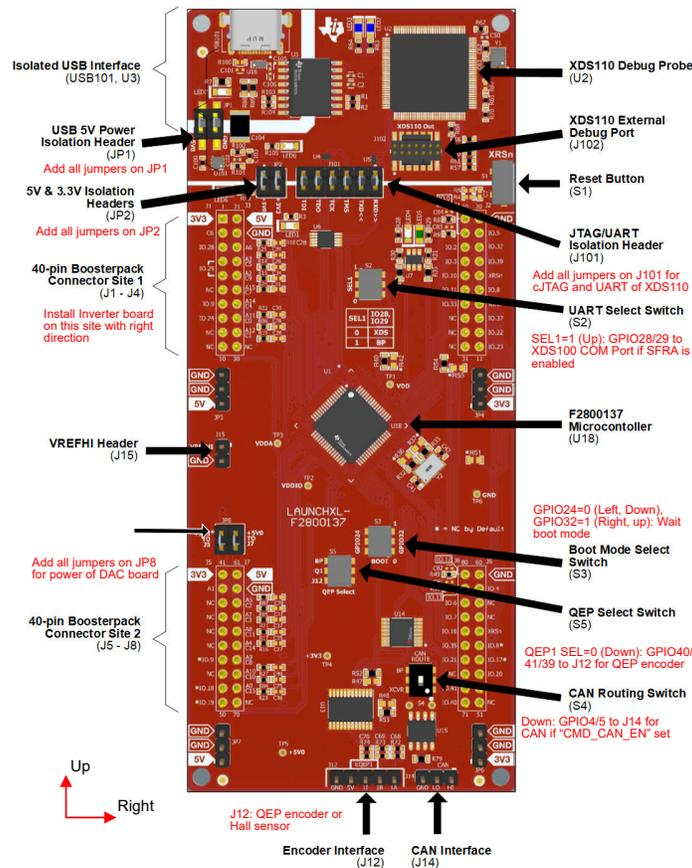

**Figure 3-2. F280039C LaunchPad Board Overview and Switches Setting**
- Make sure that the switches on the **LAUNCHXL-F280039C** are set as described below shown in **Figure 3-2**.
- For **S2**, position the SEL1 (LEFT) switch **UP** (1) to route GPIO28 and GPIO29 to the BoosterPack connector, and position the SEL2 (RIGHT) switch **UP** (1) to rout GPIO15 and GPIO56 to the virtual COM port of the XDS110 debugger.